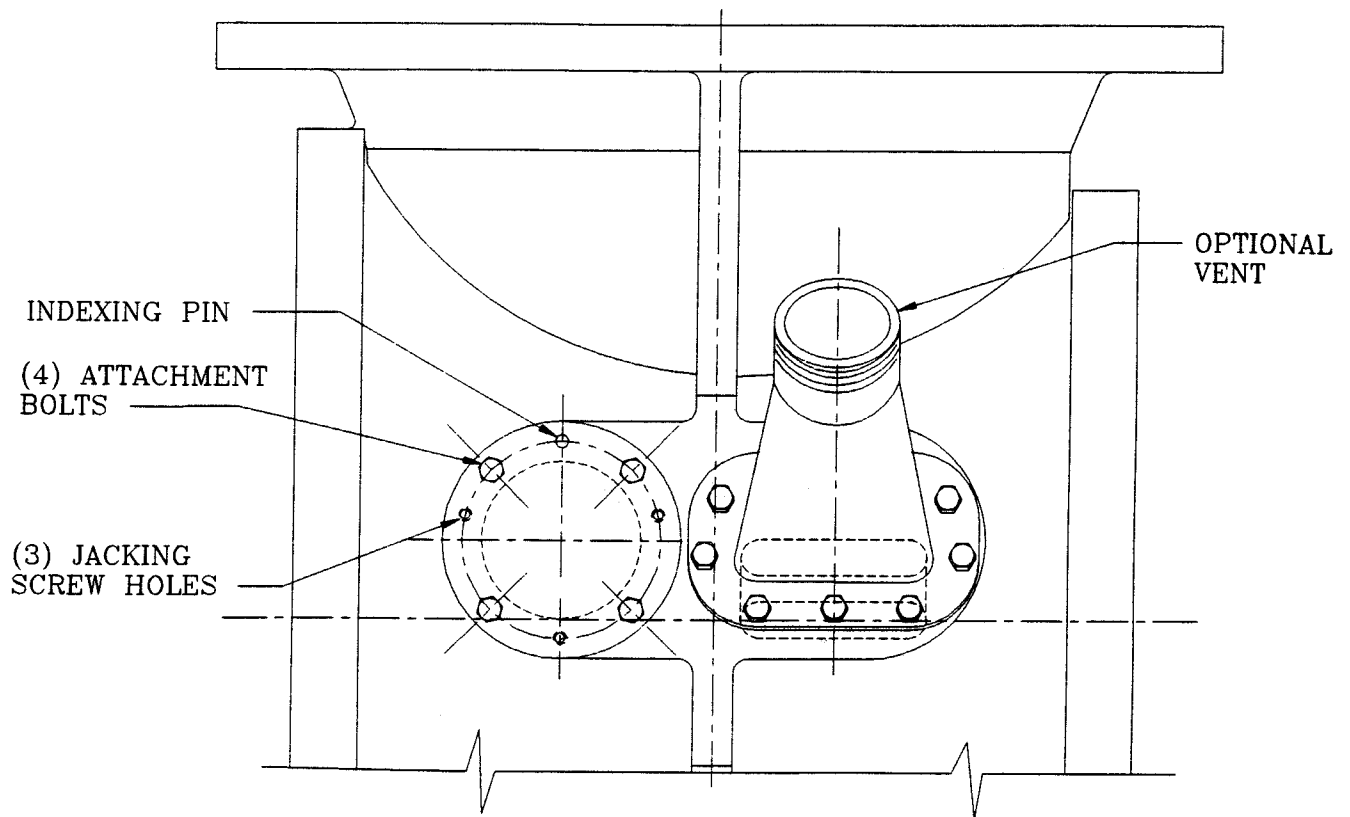

FIG. 4
- 1.) Remove the inspection plug (see Fig. 4).